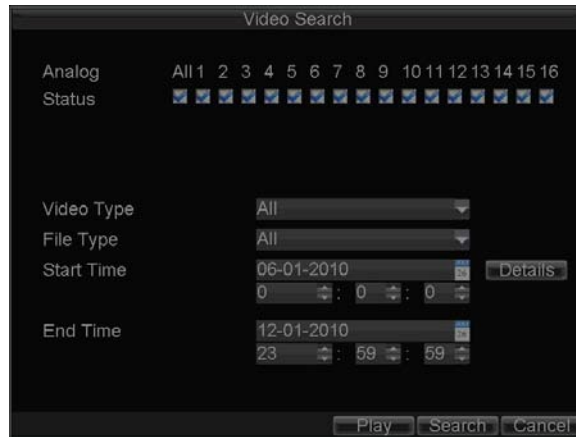

Figure 3. Video Search Menu
2. Set the search parameters by selecting cameras to search, video/file type and the start/end time (as shown in Figure 3).